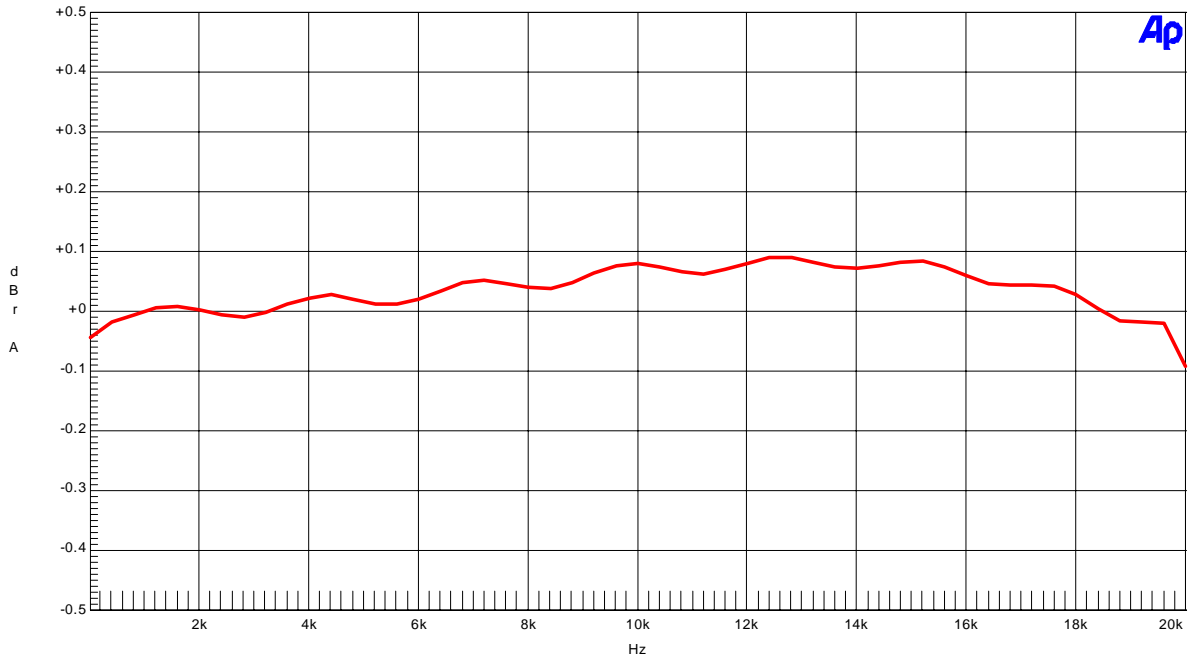

Figure 2-1-4. Frequency response
- Figure 2-1-4. Frequency response